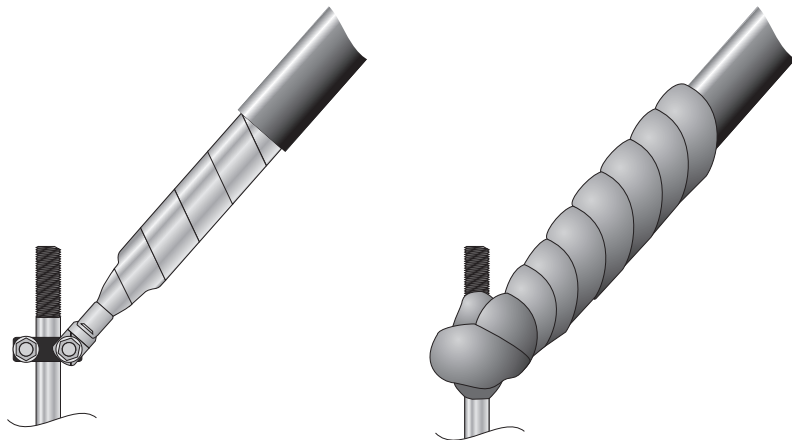

Figure 21.
- Connect the crimp lug to the earthing system using the supplied U-Bolt earth clamp if necessary [Figure 21]. Ensure the connection is aligned correctly and tightly secured using a 17 mm spanner, socket or shifting spanner.
- Use the waterproofing mastic tape to completely cover all exposed conductive areas of the lower termination and to seal the termination from moisture ingress where it connects to the earthing system [Figure 21].